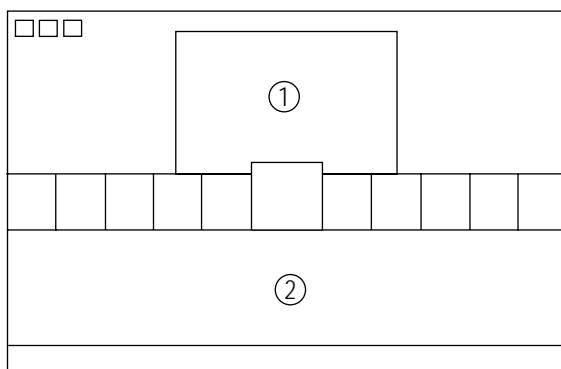

Fig. 4-4
1. Set SBT to 1.3 ± 0.2 fL in the Factory Service Mode with using CA100. See Fig. 4-4 ②.
1. Set SCT to 55 FL (20''), 65 FL(14'') in the Factory Service Mode with using CA100. See Fig. 4-4 ①.